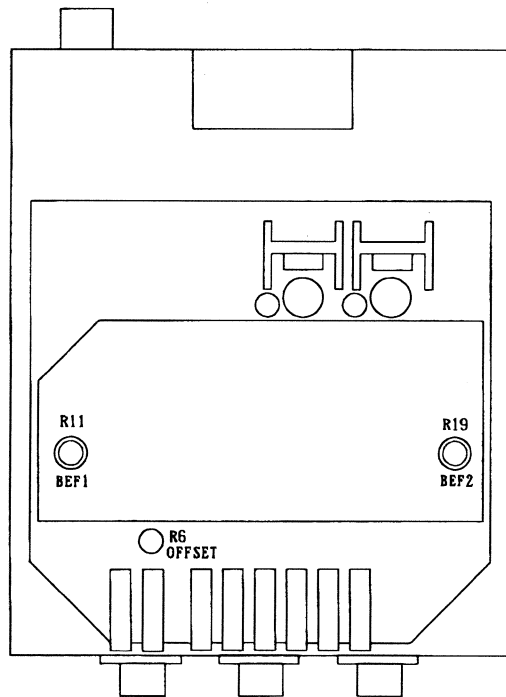

Fig. 4.2 Parts Location Diagram (top view)
a) Connect the equipment as shown in Fig. 4.2 and set up the 3611 as follows.
- a) Connect the equipment as shown in Fig. 4.2.